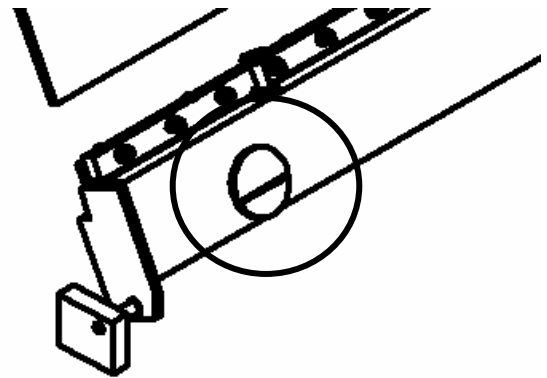

Figure 3-16
4. SLOWLY pour Reactor Oil (or equivalent) into the tank until the oil level in the oil level indicator, as shown in Figure 3-16, is at the mark.